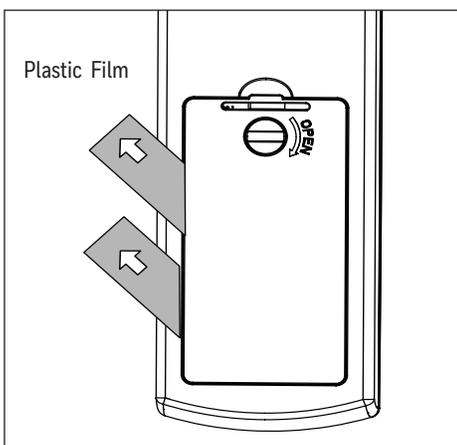

Figure 5.1
1. Batteries were preinstalled in the battery compartment of the remote in remote pack. Pull the plastic film in the direction of the arrow to remove which will activate the batteries (Figure 5.1).
Remote does not work.	<ol style="list-style-type: none"> 1. Power surge may have cleared the memory and remote needs to be resynced to the receiver. Syncing instructions: Turn off the power at the breaker box for at least 10 seconds and then turn the power back on. Within 30 seconds, press and hold the "LEARN" button (Figure 5.1) on the back of the remote for 3 seconds. The fan will turn on at high speed and light will blink twice and stay on, signaling a successful synchronization. 2. Insert new CR2032 batteries in battery compartment of the wall control. 3. If there are several remote fans in proximity, turn the power off to those fans and re-sync the fan.